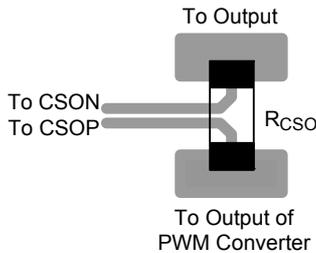

Figure 6. Kelvin connections for the R_{CSO}
- ▶ Connect the capacitor (between the CSOP and CSON pins) close to these pins. The paths of CSOP and CSON must be directly connected to the terminals of current-sense resistor (R_{CSO}) using Kelvin connections as shown in the layout shown in Figure 6.